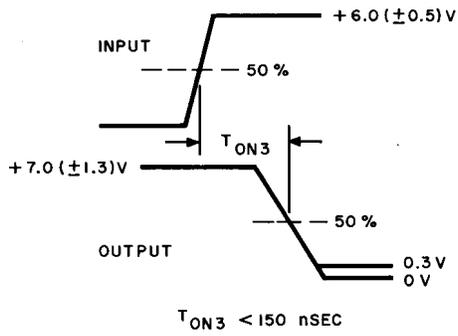

Fig. 44A — EIA Interface Test
- (3) Rotate the switch to position 10. The input-output waveforms shall be as specified in Fig. 44A.